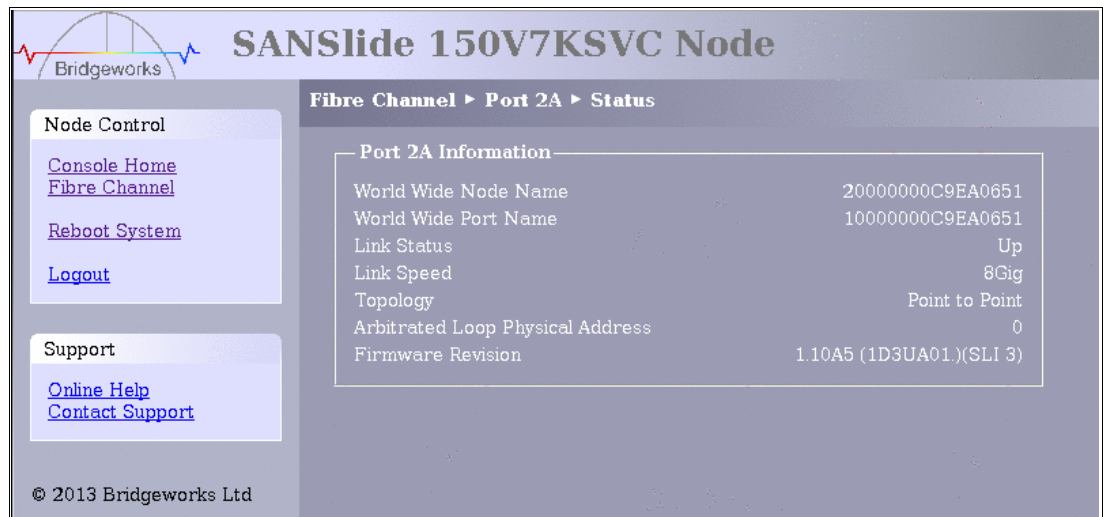

Figure 3-3 Fibre Channel port status
2. Click either of the port icons, and you will see further details (Figure 3-3).